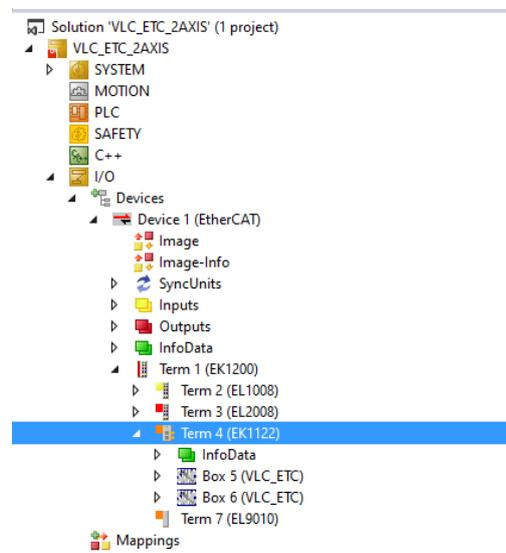

Figure 3.18. 2 VLC-ETCs detected in TwinCAT.
- Two VLC-ETCs will show up as shown in Figure 3.18.